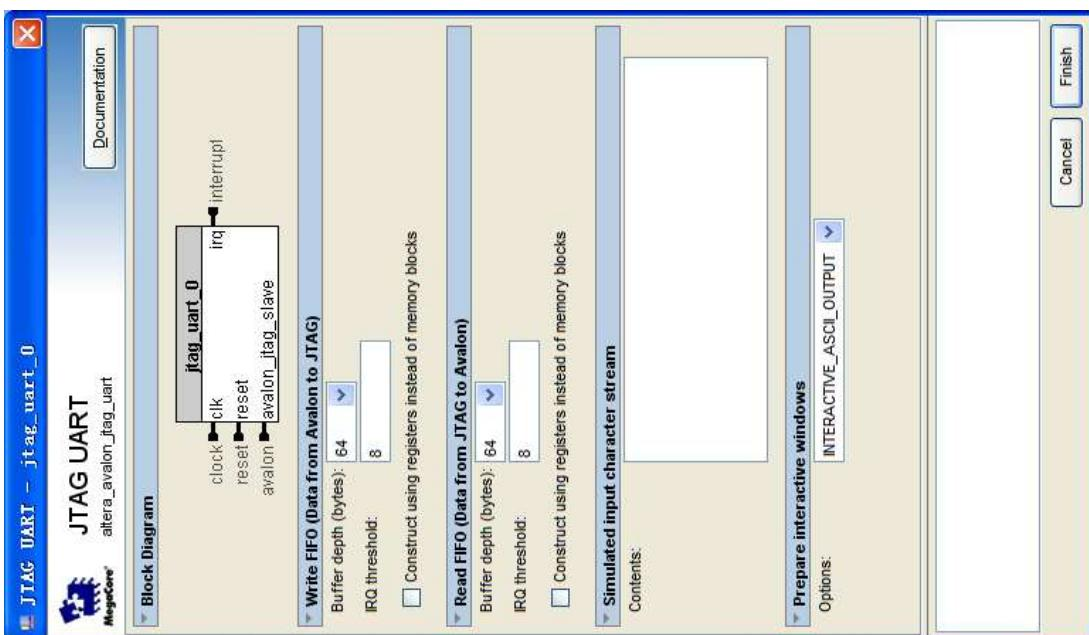

Figure 7-20 JTAG UART's add wizard
11. Add a second component by selecting **Library > Interface Protocols > Serial > JTAG UART** and clicking the **Add...** button, as shown in Figure 7-19 and Figure 7-20.